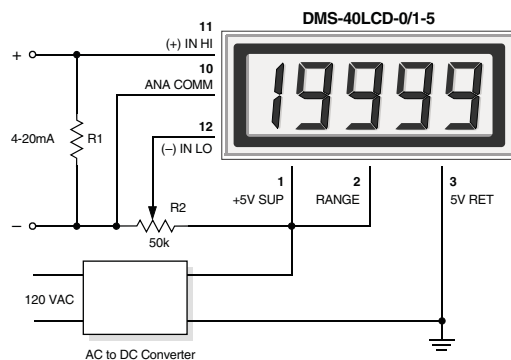

Figure 7. 4-to-20mA Current Loop Operation (5V-Powered Models)
5. Process Control (4-to-20mA) Measurements: In many common process-control applications, a 4-to-20mA current loop is used to transmit information. Because DMS-40LCD meters have such high input impedance, a simple shunt resistor across the meter's input can be used to convert the loop current to a voltage. See Figure 7. The value of the shunt resistor is a function of the scaling requirements of the particular application and can be calculated using the following equation:
To calibrate the circuit of Figure 7, perform the following: